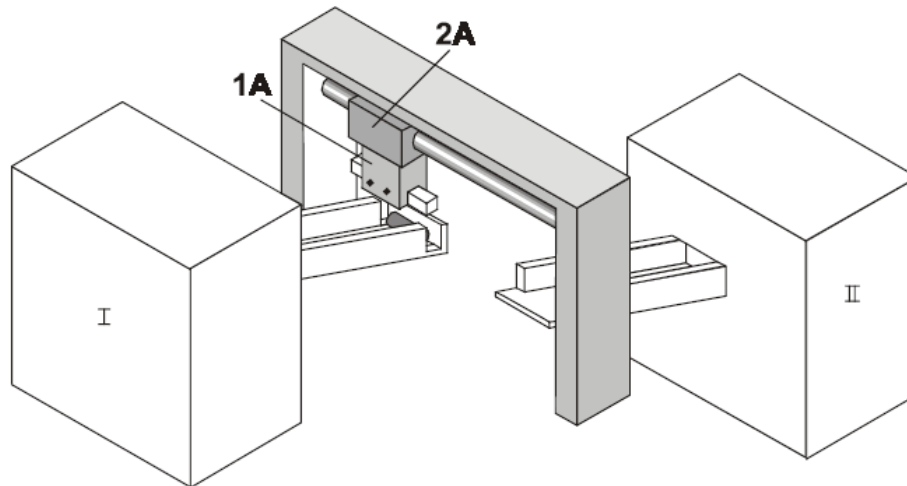

Figure 1: Cylinder shape handling device
Figure 1 shows a cylinder shape metal handling machine. This machine will transfer a product (cylinder shape metal) from box I to box II. the product produced from box I will gliding to the end of the rail and detected by present sensor (**PP**). Then the product will be grip by the gripper 1A and transferred to rail at box II by cylinder 2A. The machine will operate only when the In operation button (**InOper**) is pressed ON, and will stop if the Stop pushbutton is pressed. The machine is controlled by OMRON PLC CJ2M-cpu31.
- a) Draw the automated system structure for the system in **Figure 1**. (4 marks)